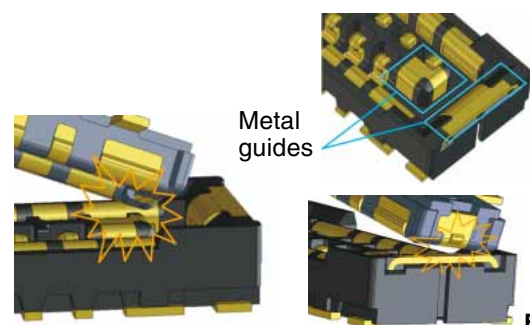

Fig.3
- 3. The proprietary metal guide prevents the connector from being damaged against offset mating.** (Fig.3)